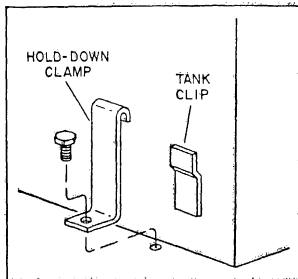

Figure 2. Circulator Mounting
- If the Water Circulating Unit is used in a moving vehicle, use the four hold-down clamps supplied as shown in Figure 2.